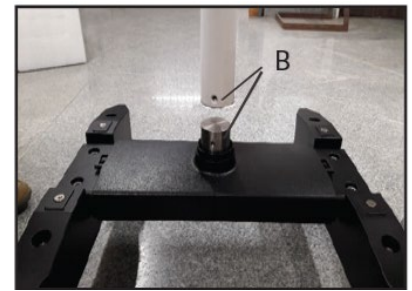
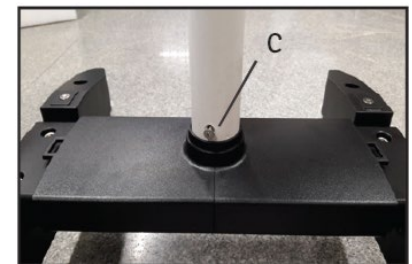

Fig. 35
Fig. 36
1. Open the Microscope Box. Remove Column from the box. Engage this column onto the shaft. Refer B in Fig.35.
1a. Align the holes of the column with the threaded holes of shaft Refer B Fig.35 and tighten three allen screws from the sides, as shown as C in Fig.36.